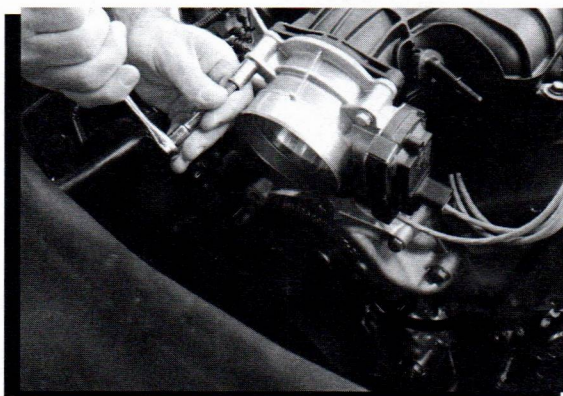

Figure 4 Remove the Throttle Body.
4. Remove the four bolts holding the electronic throttle body to the intake (Figure 4). The four OEM throttle body bolts will be replaced with the shorter bolts provided in the MSD manifold fastener kit. The MSD-supplied bolts (M6x1.0x40mm) MUST be used during re-assembly. Damage to the intake shell could occur by using the longer stock bolts.